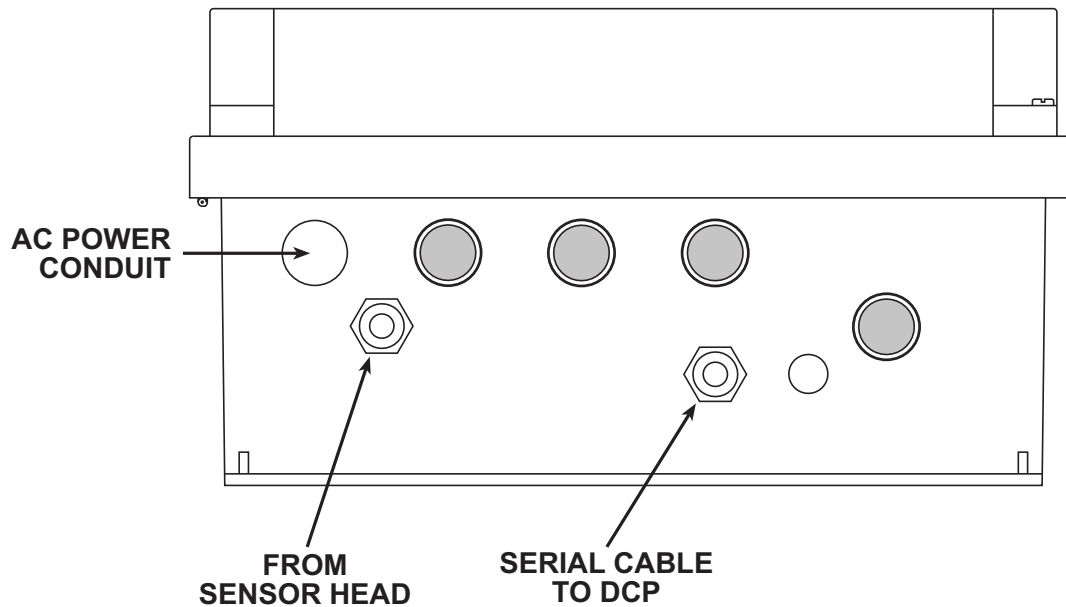

Figure 8. External Connections at Enclosure Bottom
Figure 8 shows the external connections at the bottom of the enclosure.
1. Route the cable from the sensor head into the electronics enclosure as shown in Figure 8.
2. Feed the free end of the shielded RS-485 cable through the serial cable gland shown in Figure 8.
1. Install a conduit fitting at the location shown in Figure 8. Feed the power cable through the conduit fitting. A 3-wire 16 to 18 AWG cable is recommended.